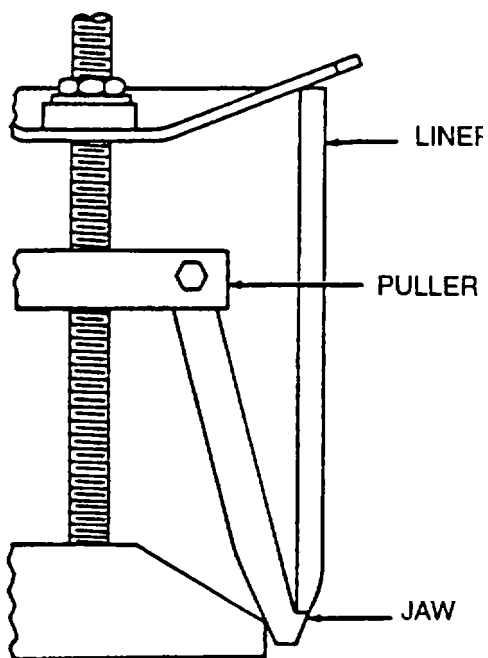

FIGURE 3-144. Use of Cylinder Liner Puller
- d. Pull liners (9) out of engine block using suitable puller or tap liners out of engine block using a suitable wooden block and hammer. Be sure that jaw of puller is correctly positioned before attempting to remove liner, refer to FIGURE 3-144.